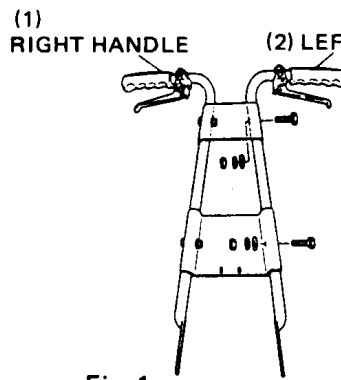

Fig. 1
- a. Install the right handle onto the brackets which are attached to the left handle using 2 pcs. 6 x 35 bolts, 2 pcs. 6mm nuts and 2 pcs. 6mm washers. (Fig. 1)